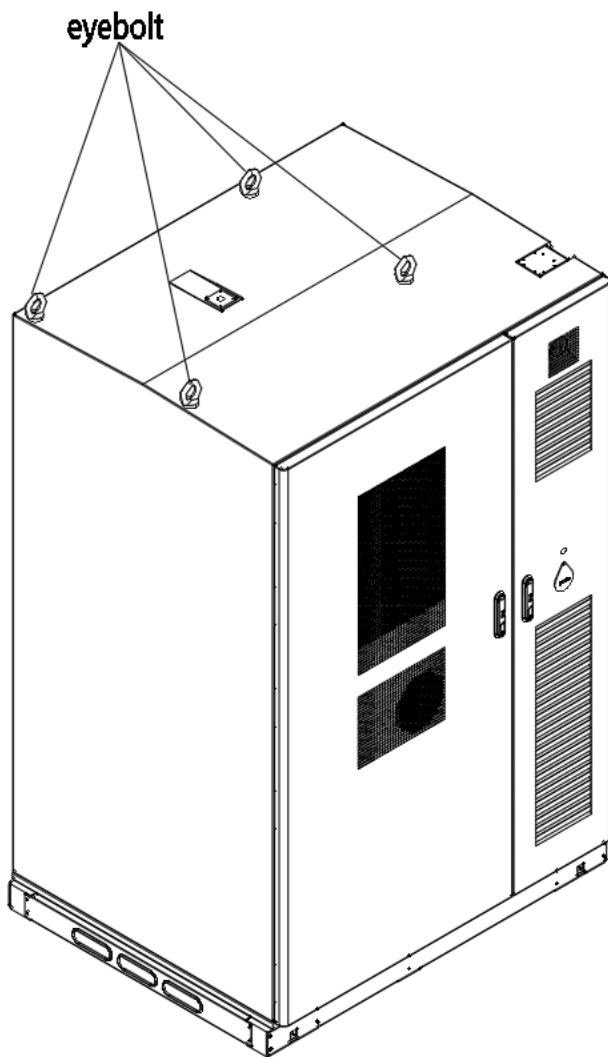

Figure 4-5 Schematic of the Energy Storage Cabinet Lifting Ring Installation
④ Screw the M24 lifting ring into the installation position on the top of the energy storage cabinet, ensuring that the lifting ring is fully screwed in and not loose, as shown in Figure 4-5: the same operation applies to the combiner box;